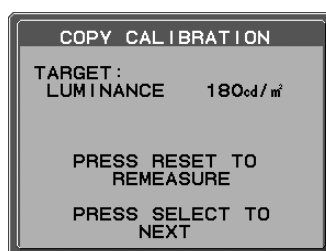

Figure C.5
6. After copying Display A information, the target luminance will be stored and displayed in the OSD of Display B. The target value is not adjustable (**Figure C.5**). The white points of Display A and Display B should match.